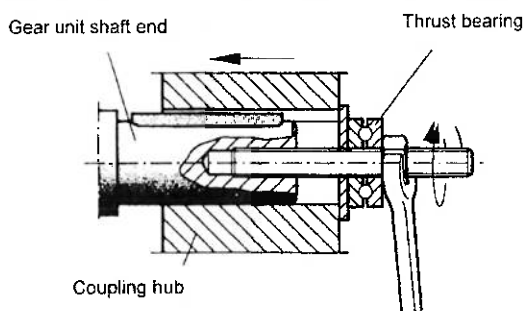

Fig. 1: Example of a mounting device
Fig. 1 is an example of a mounting device for mounting couplings or hubs onto gear unit or motor shaft ends. It may be possible to dispense with the thrust bearing on the mounting device.
- Only use a mounting device (see Fig. 1) for installing input and output elements. Use the center bore and the thread on the shaft end for positioning purposes.